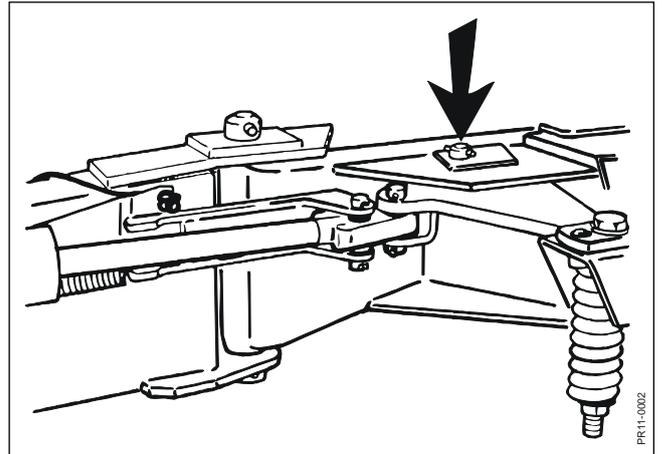

Fig. 2-2
- Fig. 2-2:** Fasten a hydraulic cylinder or a mechanical conversion link with a pin and a cotter pin.